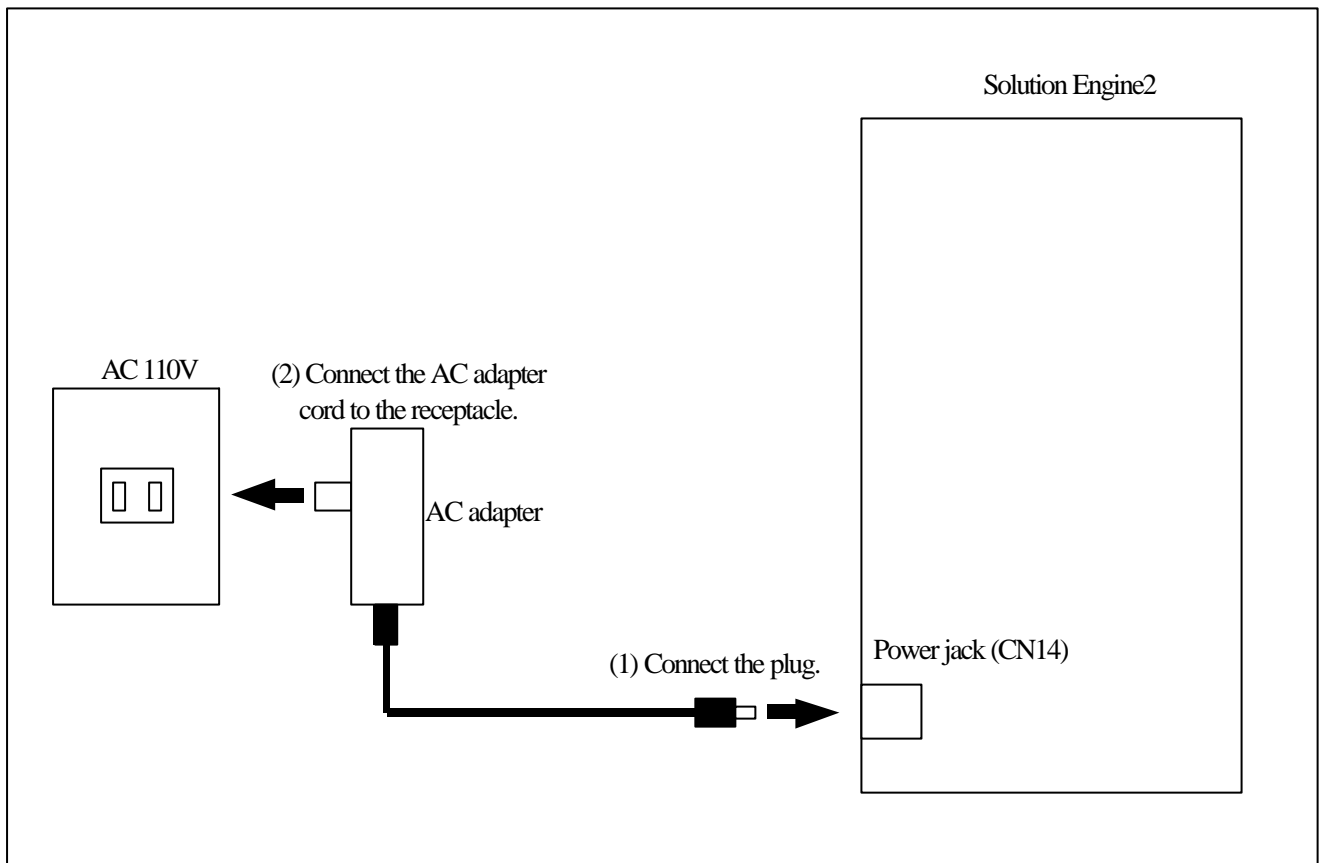

Figure 2.3 AC Adapter Connection
Figure 2.3 shows an AC adaptor connection method. As shown in Figure 2-3, connect the plug to the AC adaptor connector of Solution Engine2 (1), then connect the adaptor cord to the receptacle (2).